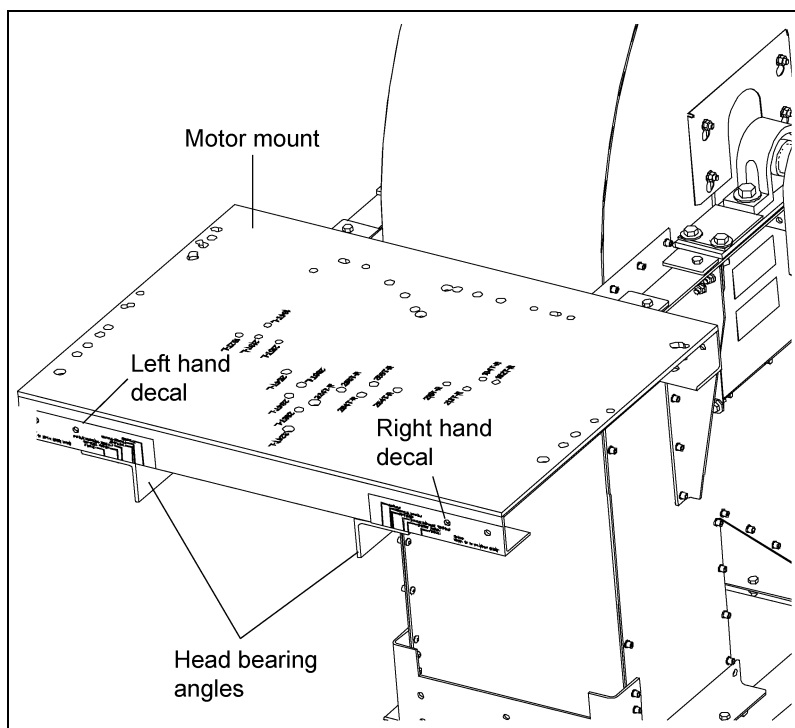
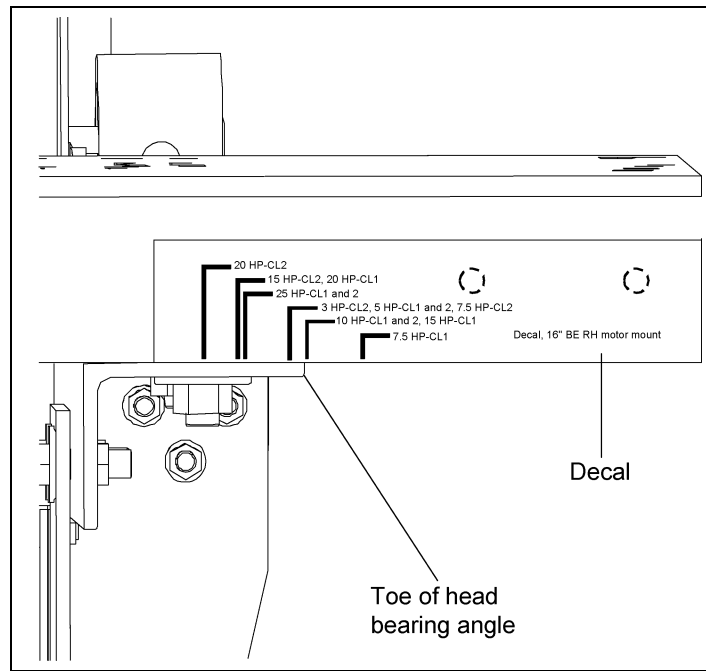

Figure 11A Motor Mount Plate
Figure 11B Right Hand Motor Placement Decals
The Figure 11A below and Figure 11B on Page 32 shown for a right hand application.
1. Locate the side of the motor mount which has two (2) decals affixed. (See Figure 11A.) One decal will have "L.H." for left hand and one will have "R.H." for right hand.
4. Slide the motor mount in or out while keeping the decal correctly aligned with the outside toe of the head bearing angle. (See Figure 11B on Page 32.) This will align the holes in the head bearing angles to the proper holes in the motor mount assembly.
5. Using the proper hardware, bolt the motor mount down to the head bearing angles. (See Figure 11A.)